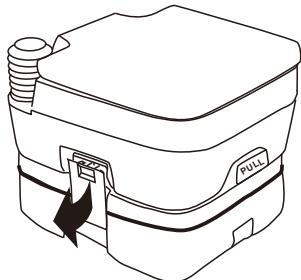

Figure 8
- Make sure that the slide is pushed in completely before separating the waste holding tank and then release the latches on both sides, hold freshwater holding tank with both hands and move it from above of the waste holding tank. Do not disassemble the slide valve. (figure 8)